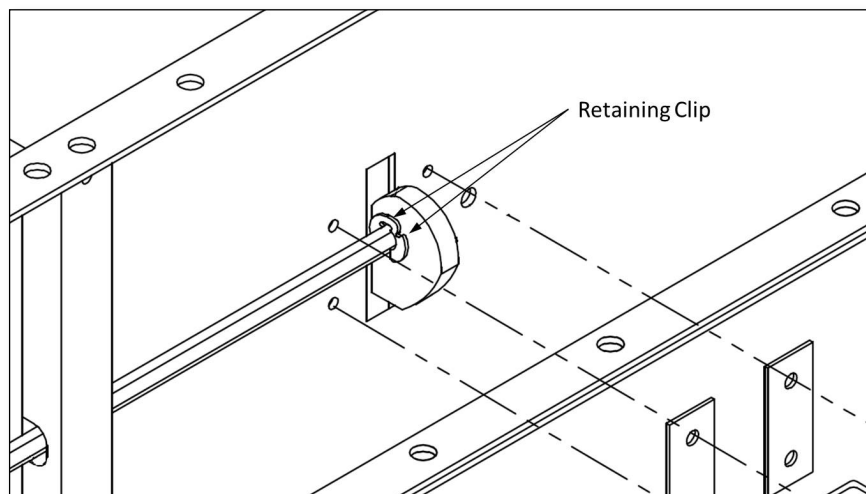

Figure B-2 Cam Assembly Detail
- 2) Slide hex shaft into cam lobe and install retaining clip on each side of cam lobe See Figure B-2
- 4) Bolt position brackets in place using (4) 1/4-20 bolts. Torque to 60 in-lbs.